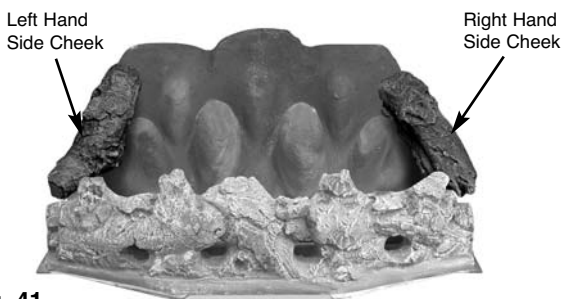

Fig. 41
3. Following Figs. 41 to 49, place the loose logs on to the fuel bed. It is important that the logs 'nest' together and sit on top of the fuel bed peaks.